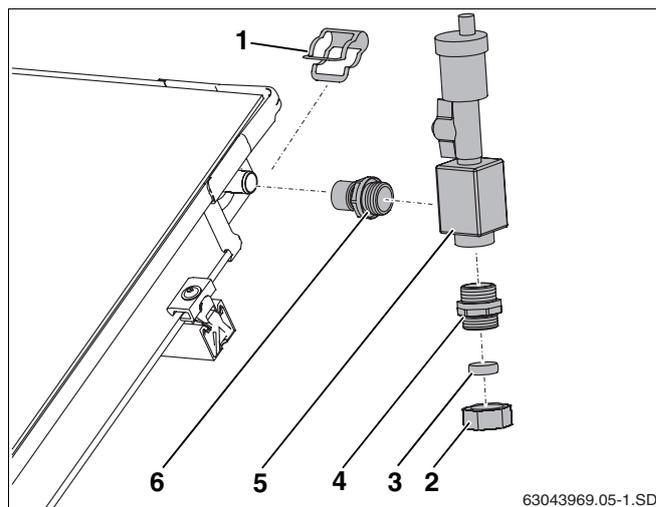

Fig. 60 Connecting the air vent
- ▶ Firmly screw threaded fitting (Fig. 60, **Item 6**) and double threaded fitting (Fig. 60, **Item 4**) into air pot (O-ring gasket).
- ▶ Push air pot (Fig. 60, **Item 5**) and fitting onto collector connection and secure with clip.
- ▶ Connect header pipe to the compression fitting (22 mm) (Fig. 60, **Item 2**).